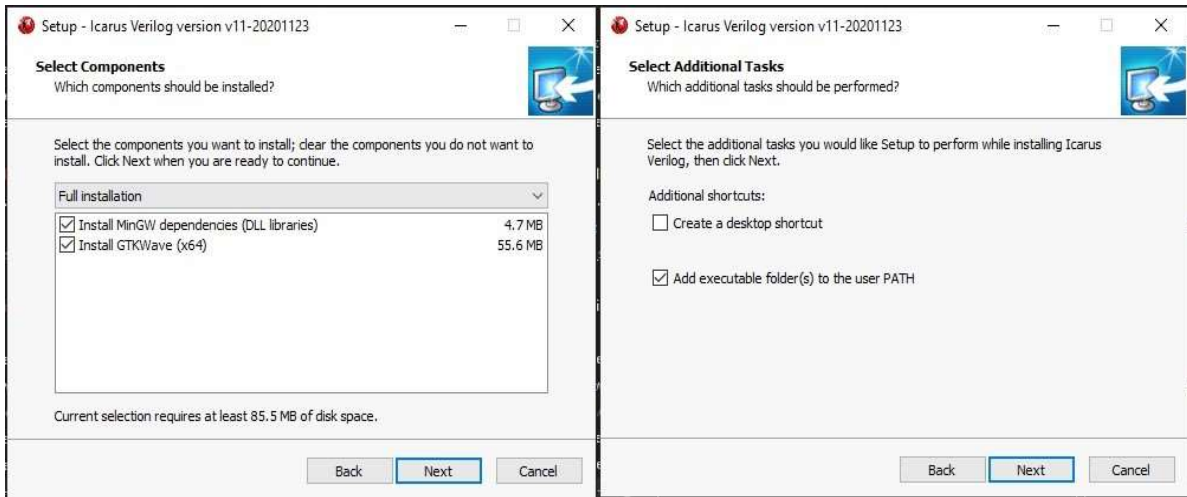

Figure 1. Go Configure Software Hub User Interface
- b. Be sure to add IVerilog to the PATH and let it install GTKWave (See Figure 1)